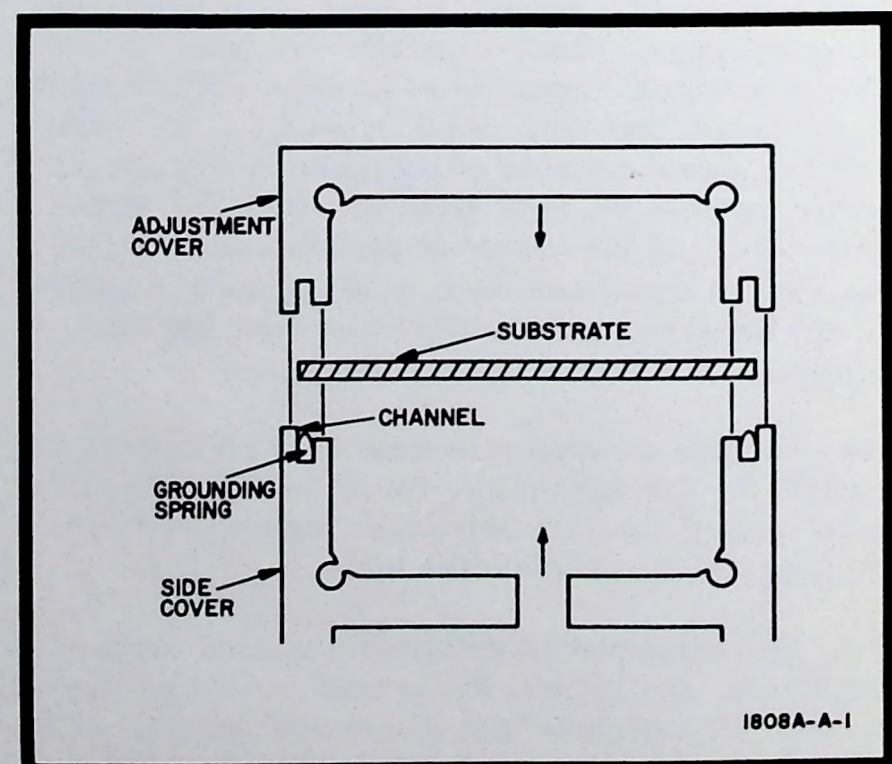

Figure 8-1. Attenuator Assembly
- c. Verify grounding springs are seated inside adjustment cover channels (figure 8-1).